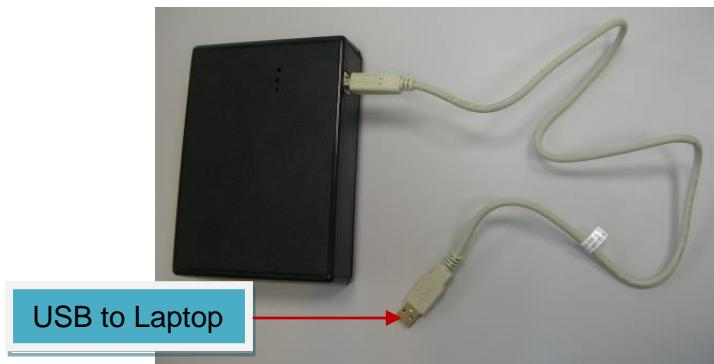

Figure 10: FJ3 Programmer
1. Connect the USB cable from the programmer tool to your laptop (Refer to Figure10).